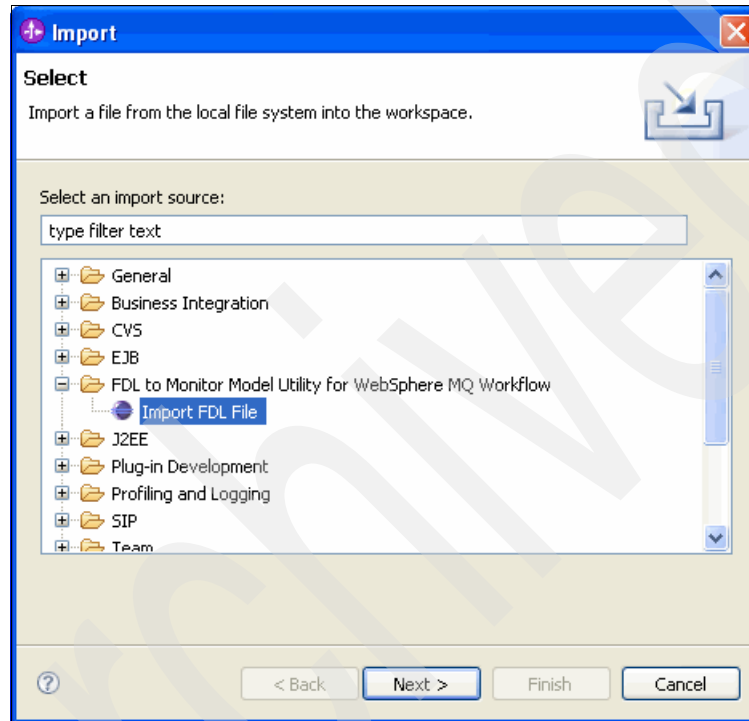

Figure 8-44 Selecting Import FDL File
2. In the Import – Select window (Figure 8-44), select **FDL to Monitor Model Utility for WebSphere MQ Workflow** → **Import FDL File** and click **Next**.